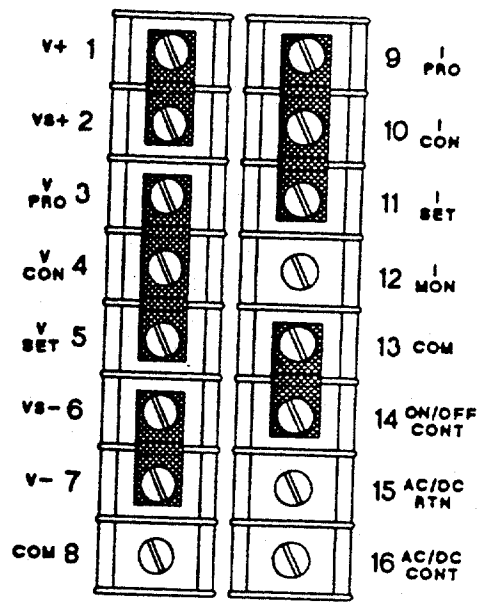

FIGURE 3-2
a. Local Operation. Units are shipped from the factory configured for local voltage/current control and local voltage sensing. This configuration is used for applications where the IR drop of the load wires is insufficient to degrade performance at the load. The strapping pattern is provided in Figure 3-2. Prior to turning the unit on, rotate the voltage and current potentiometers fully counterclockwise (minimum output). Then switch the circuit breaker to the ON position and adjust the voltage and current to the desired output.